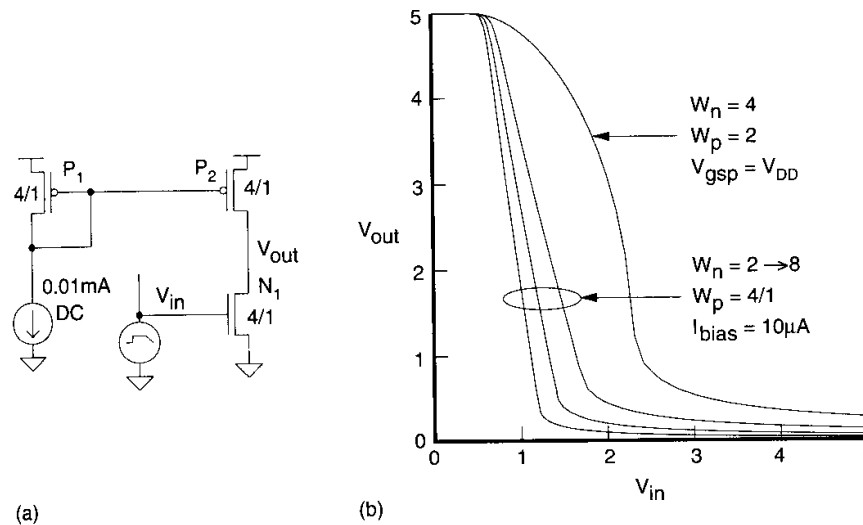

FIGURE 2.22 Constant current source load pseudo nMOS inverter
- Figure 2.22(a) shows an inverter with a p-transistor biased to be a constant current source.